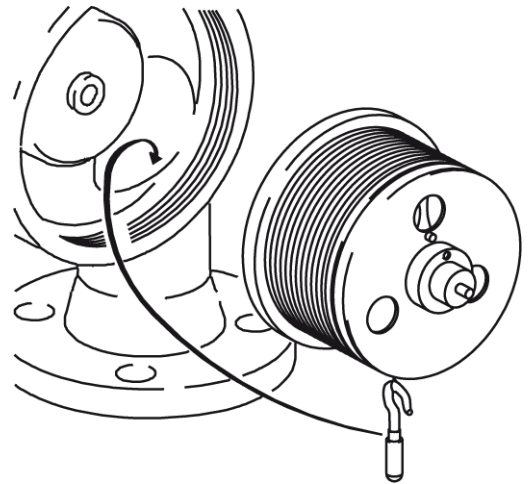

Figure 3.2 Installing the drum
- Attach the smallest of the four test weights (or another small weight) to the measuring wire, remove the rubber band securing the measuring wire and feed the wire and weight through the neck of the gauge (refer to figure 3.2).